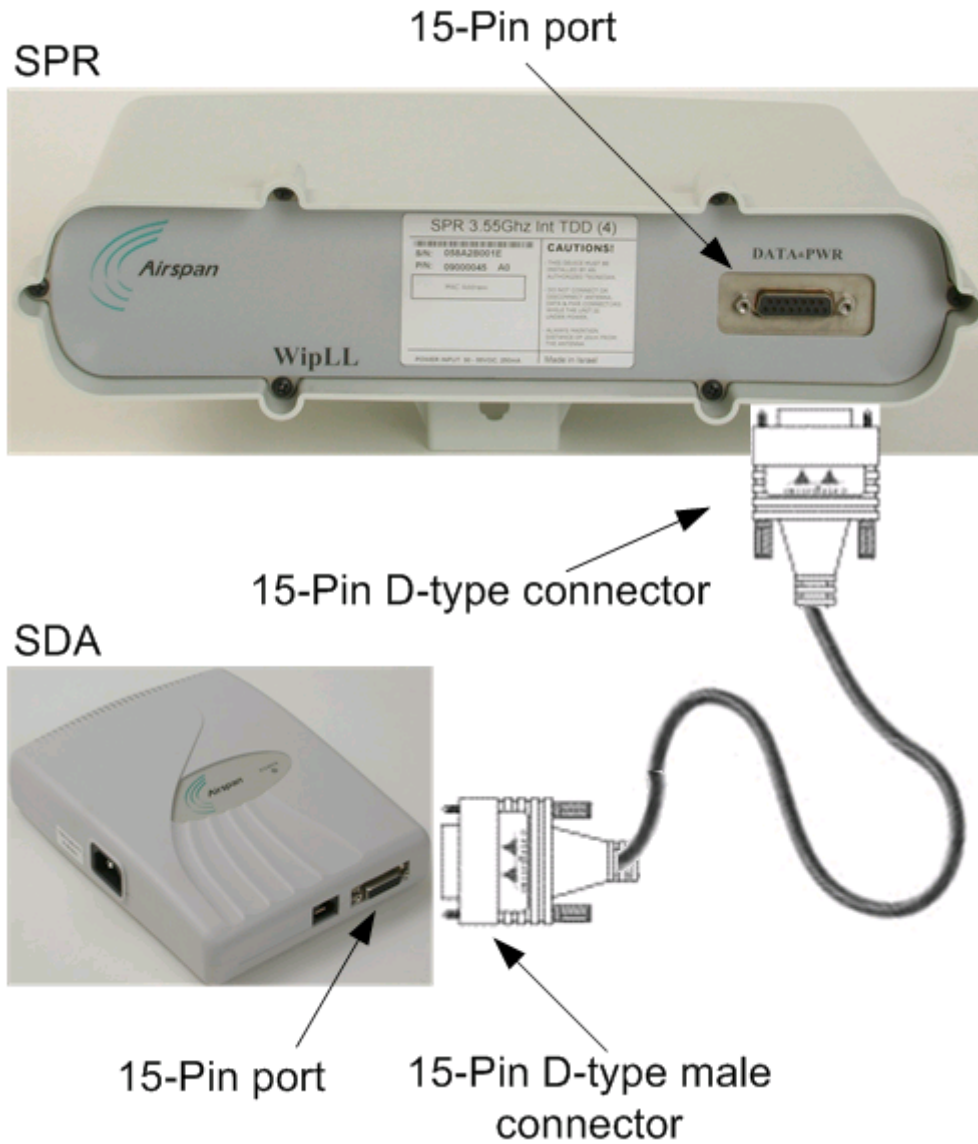

Figure 8-17: SPR-to-SDA cable connections
1. Attach the **15-pin D-type** connector, at one end of the cable, to the SPR's 15-pin D-type port labeled **DATA POWER SYNC**, as displayed in Figure 8-17.
2. Attach the **15-pin D-type** connector, at the other end of the cable, to the SDA's **15-pin D-type** port, as displayed in Figure 8-17.